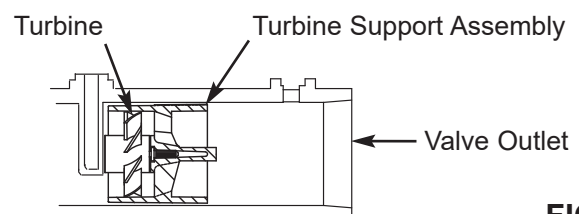

FIG. 8
- c. Make sure the turbine and support are firmly in place in the valve outlet, as shown in Figure 8. Blow into the valve port and observe the turbine for free rotation.